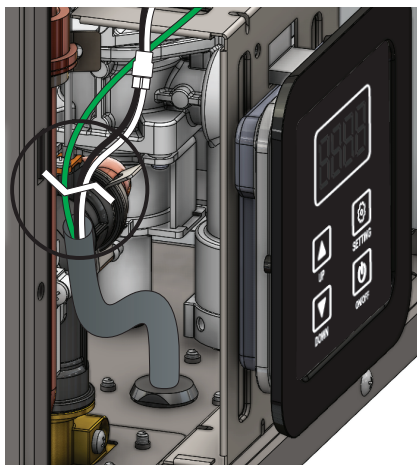

Figure 23 - System power cord cut location.
- 2 Locate the system power cord and cut the wires at the location shown in Figure 23.